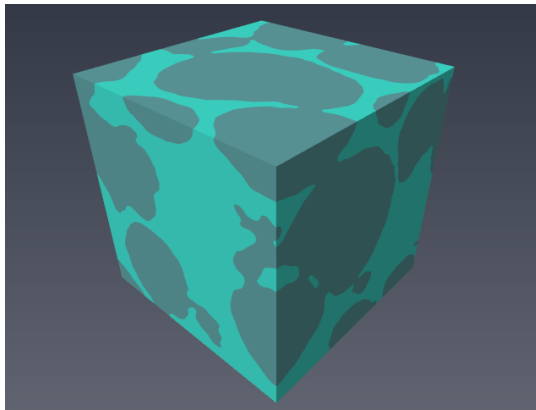

Figure 7.11: Surface generated from the two phases label image.
- Attach a *Surface View* display module to the resulting surface (see Figure 7.11).